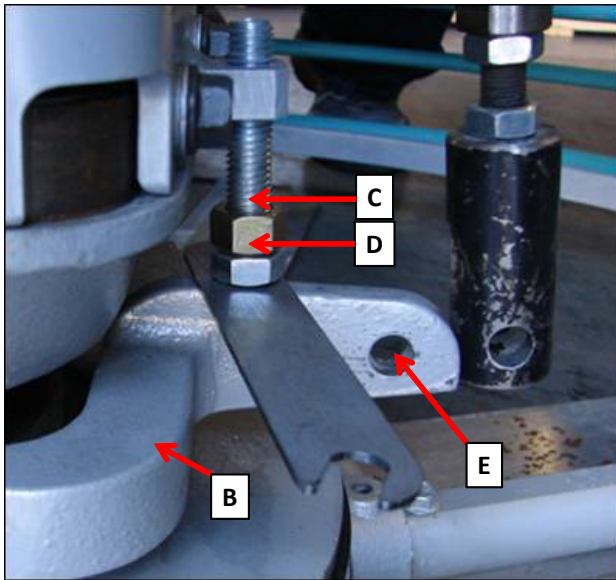

Figure 39. Zero Pitch Adjustment
3. Remove clevis pin (Item E, Figure 39) from pitch cylinder allowing yoke (Item B, Figure 39) to rest on thrust collar.
4. Loosen jam nut (Item C, Figure 39) with $\frac{3}{4}$ " wrench.
5. Set distance between head of stop (Item D, Figure 39) and yoke (Item B, Figure 39) to .075" (14 gauge steel, Gauge #32020).
6. Loctite and tighten jam nut (Item C, Figure 39).
7. Reinstall clevis pin (Item E, Figure 39) between pitch cylinder and yoke.